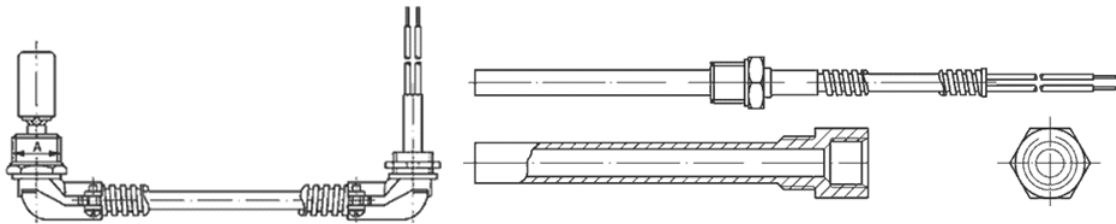

Figure 22: Crankcase heater 27W, 70W and 100W
- The internal crankcase heater for K compressors is a self-regulating 27-Watt PTC heater (see **Fig. 22**).
- Heaters for D3, 3D, D4 and D6 compressors are screwed into a sleeve (see **Figure 22**).